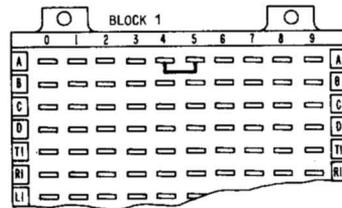

Fig. 13—E Option
4.11 The E option (Fig. 13) provides interrupted 10 Vac to operate station buzzers when the station codes are dialed. Option E consists of a strap on block 1 of the 626A panel between terminals 4 and 5 on row A.